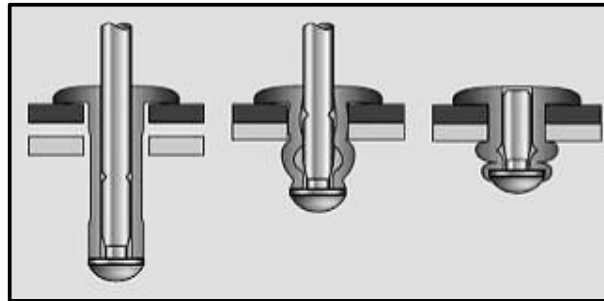

FIGURE 4.8
- (1)
- 4.8 FIGURE 4.8 below shows the different stages of a pop rivet during the riveting process. Identify the type of force that is exerted onto the casing of the pop rivet.